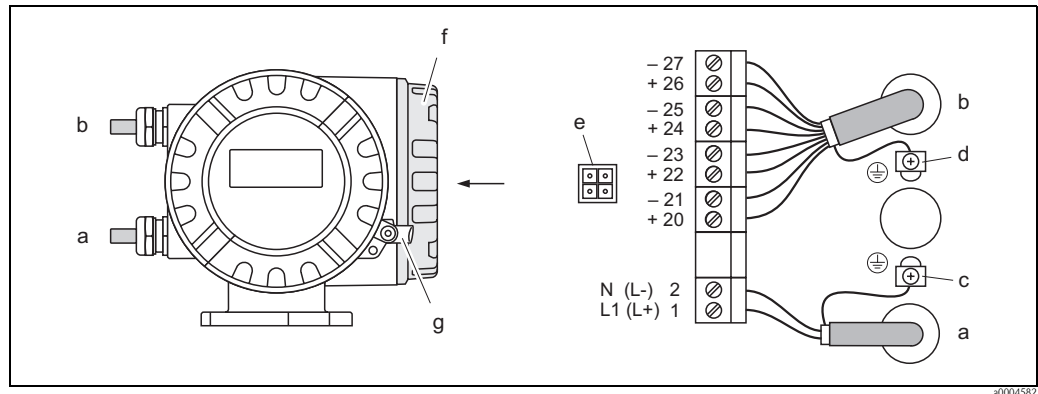

Fig. 18: Connecting the transmitter (aluminum field housing). Cable cross-section: max. 2.5 mm²
- Wiring diagram (aluminum housing) → Fig. 18